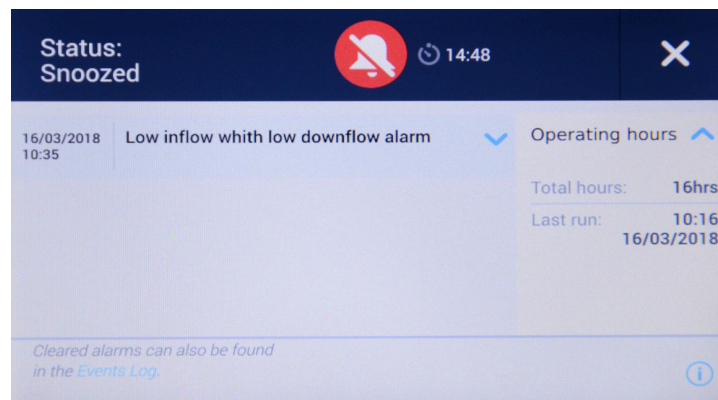

Figure 54 “Health Status Alarm” Screen
Additionally, you will be taken directly to the Health Status Danger screen with its alarm list shown in Figure 54.
4. Tap the red “Health Status Alarm” icon  to display the “Health Status Alarm” screen shown in Figure 54 and review the alarm list.